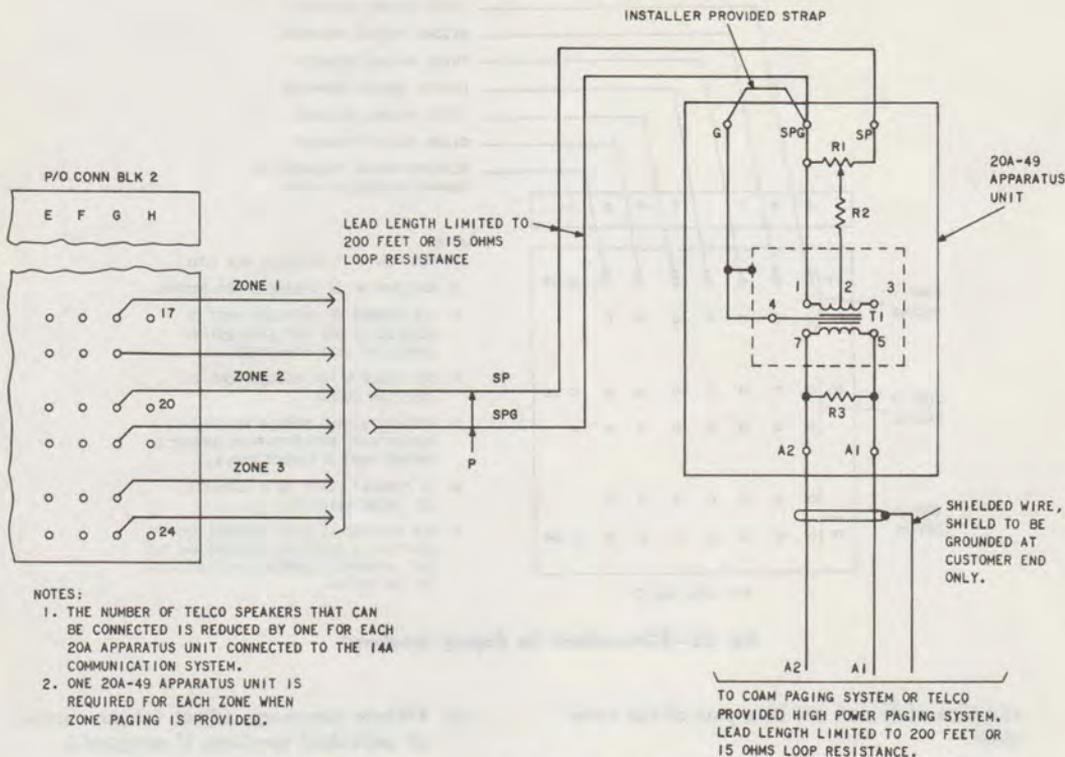

Fig. 33—Connections for 20A-49 Apparatus Unit
- 4.55 A customer-owned and maintained (COAM) paging system, or a separate telephone company-provided paging system, is connected to the 14A System through a 20A-49 apparatus unit (see Fig. 33). The 20A-49 apparatus unit is mounted externally to the KSU. Where zone paging is utilized, a separate 20A-49 apparatus unit is required for each zone.
- (1) Remove cover from the 20A-49 apparatus unit.
- (2) Mount the 20A-49 apparatus unit within 200 feet of the KSU (wherever the customer desires).
- (3) Connect the apparatus unit to the KSU as shown in Fig. 33. Wiring should be
- (4) Have customer connect his paging system to the 20A-49 apparatus unit, using shielded wire, as shown in Fig. 33.
- (5) Replace cover on the apparatus unit.